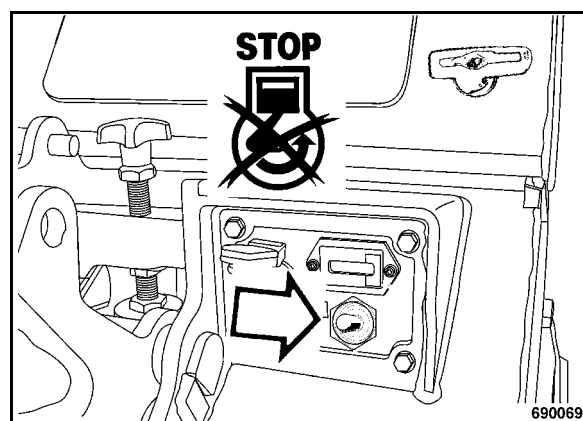

Fig. 28
- Press the engine stop button (Fig. 28), the engine will stop.